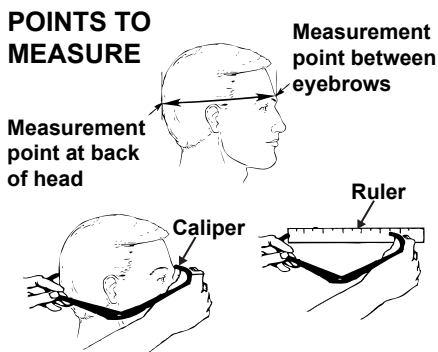

Figure 5. Head Length
1. Use a caliper and a ruler as shown in **Figure 5** to measure the distance (to the nearest 1/16 inch) from the point between the eyebrows to the back of the head. This is the head length. Ensure that the caliper touches the skin lightly and does not indent the skin.